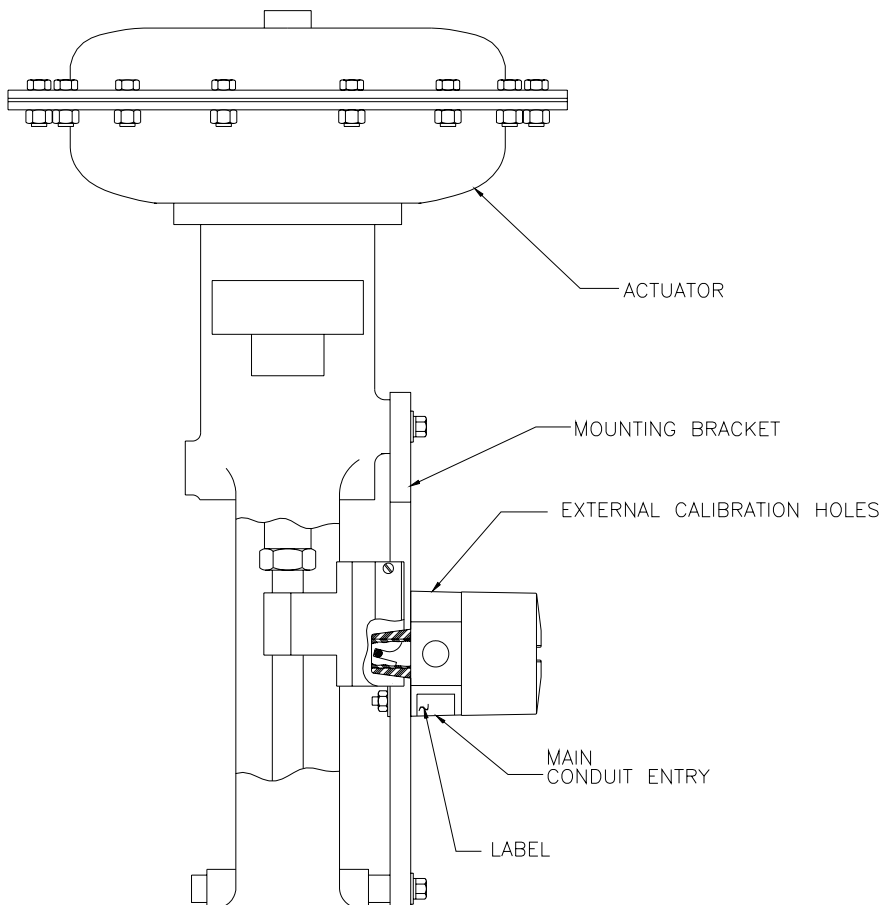

Figure 3
- 4.1.4 Lastly, mount the D-EPIC to the bracket so that the conduit entry faces away from the diaphragm or cylinder (See Figure 3)